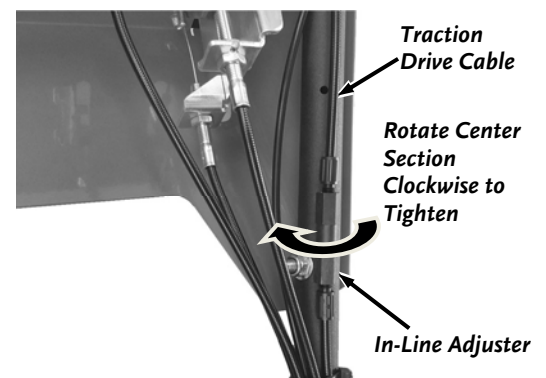

Figure 31
1. Locate the Traction Drive Cable along the right Handlebar (**Figure 31**). There is an In-Line Adjuster to change the length of the Cable.